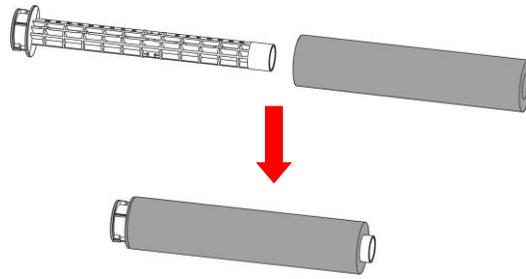

Figure 2-7
2. Place the ribbon spindle into the ribbon, which will be used as the ribbon supply hub (see Figure 2-7).